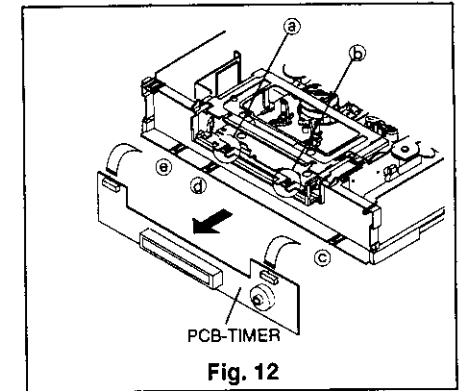

Fig. 12
- ③ Remove five catches (a~e) shown in Fig. 12 to remove the PCB-TIMER.